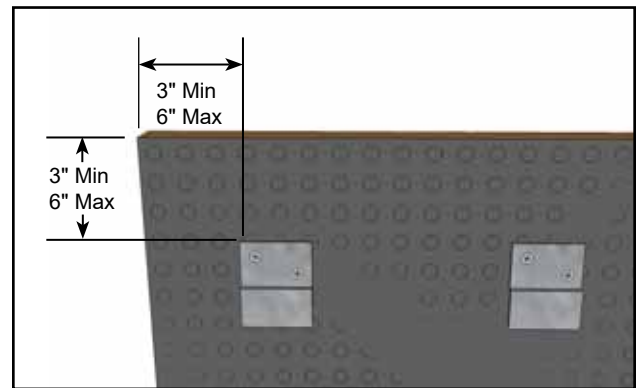

Figure 1
1. Screw in supplied z-clips to the back of the panel. (Figure 1)